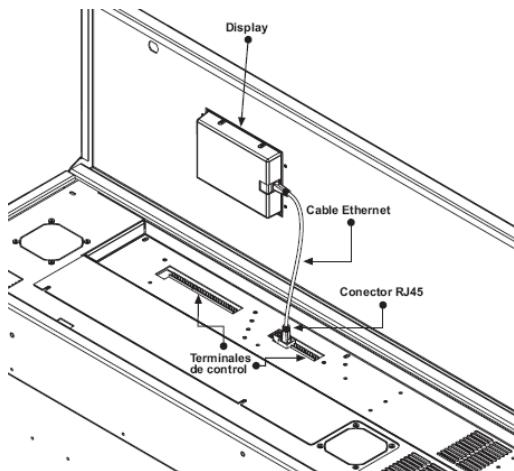
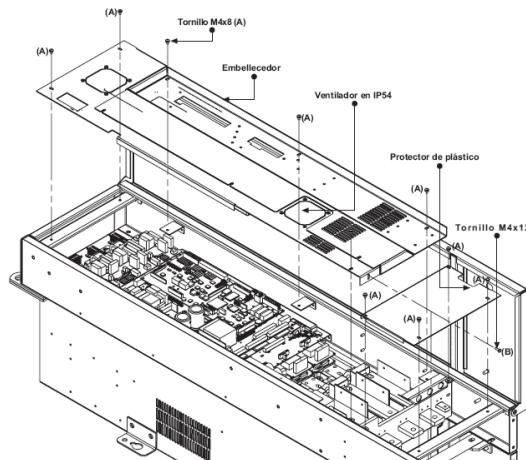

Figure 3.1 Disconnect the Display and the control terminals
Figure 3.2 Access inside
Follow figure 3.1 and figure 3.2 while reading these instructions:
- 1) Place the trims over the supports in sides of the chassis as it is shown in the *figure 3.2*.